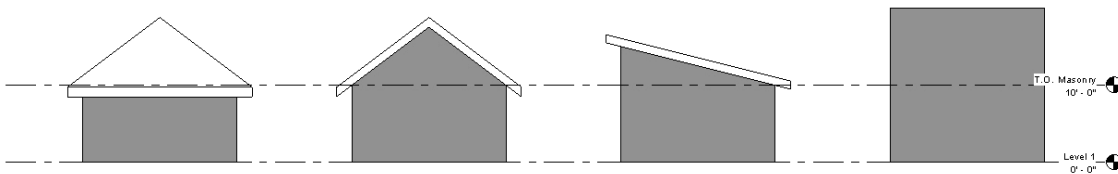

Figure 7-1.10 South elevation – Shed roof
37. Switch to the **South** elevation view (Figure 7-1.10).